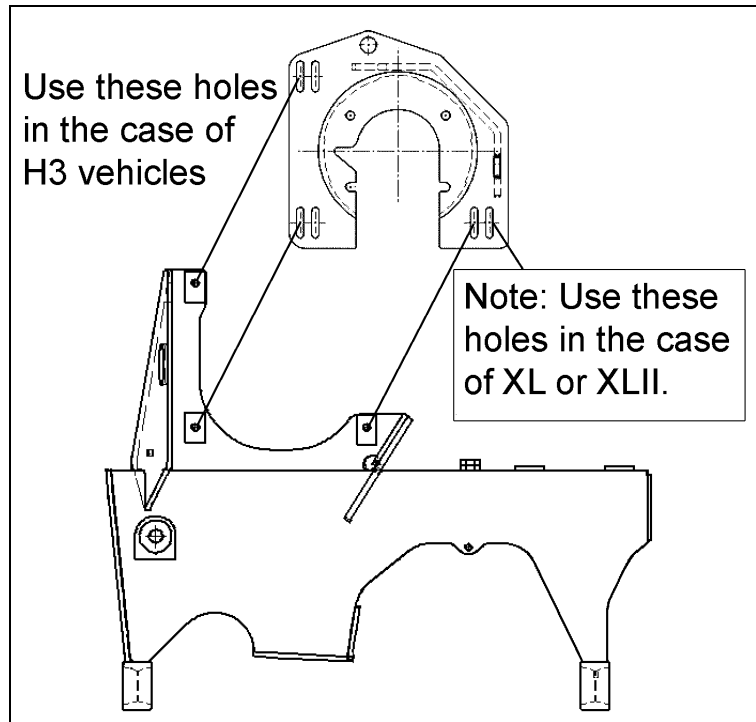

FIGURE 1
20. Install support plate (052652) onto fan clutch (550839) then install fan clutch onto mounting base and secure using 3 carriage bolts (5001208), flat washers (500874), split-lock washers (502889) and nuts (502543) (Refer to figure 1).